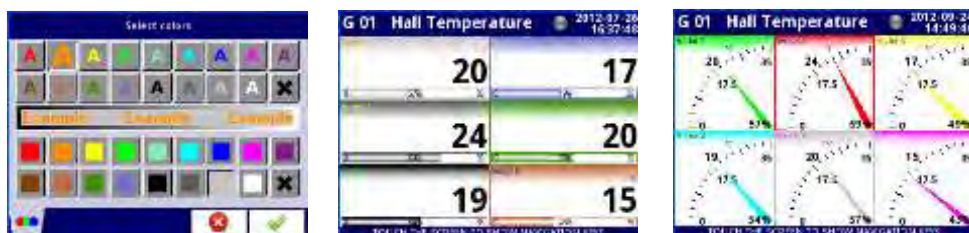

Fig. 7.122. Style color select screen and examples of views with changed styles
- Style – defines color which will be used to draw logical channel selected in this Slot. User can specify font color in channel (except value color) and drawing color of all elements connected with channel visualisation (see Fig. 7.122). Using black X buttons user can return to default settings.